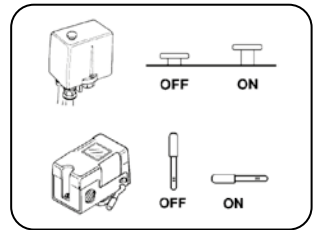

FIGURE 8.3
- A. Check the pressure switch (Figure 8.3);